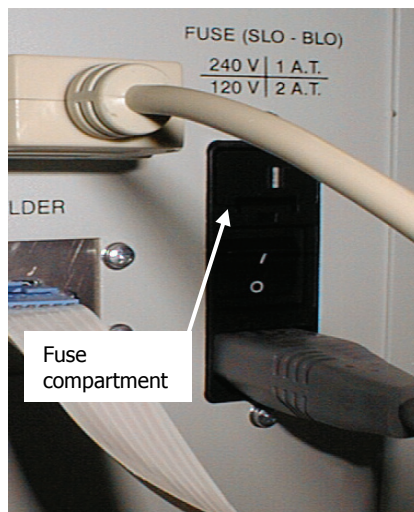

Figure 8 Rear of PTP controller showing fuse compartment
1. Pry open the fuse compartment located at the rear of the PTP-1 (Figure 8) using a screwdriver.